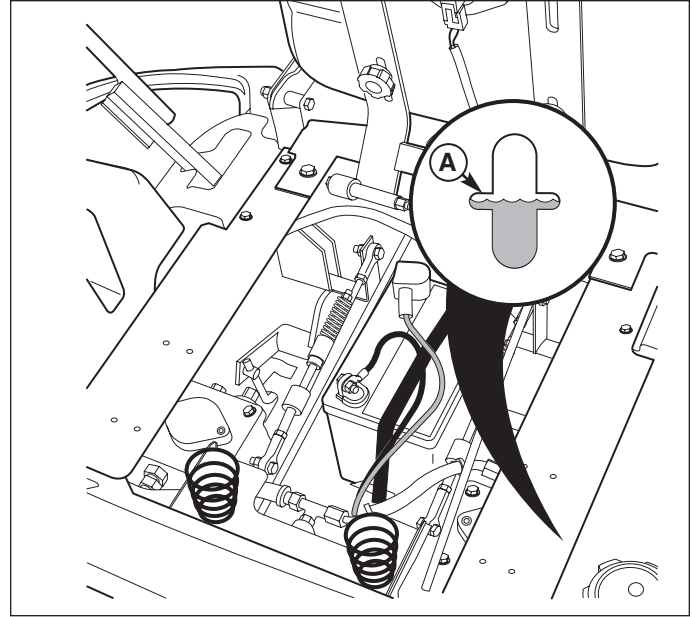

Figure 6. Transmission Oil Fill Level
1. Check the oil level when the unit is cold. The inspection port is located on the inside of the right tank cover. The oil level should be within 1/2" (1.3 cm) of the horizontal level mark (A, Figure 6). If the oil is below this level, proceed to step 2.